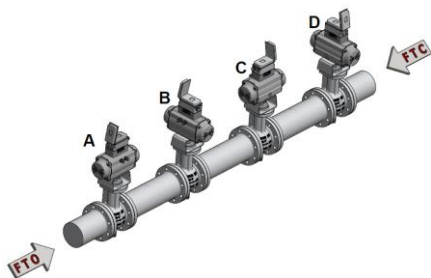

Fig. 1.1: Standard installation positions - horizontal pipeline
**Type-approved valves according to Gas Appliances Regulation (EU) 2016/426, DVGW, DIN EN 161, CERTCO** may only be installed in the pipeline with the actuator facing upwards. See Fig. 1.1.
- SAMSON VETEC recommends the standard installation position: horizontal pipeline, AT actuator orientated vertically upwards. See Fig. 1.1.